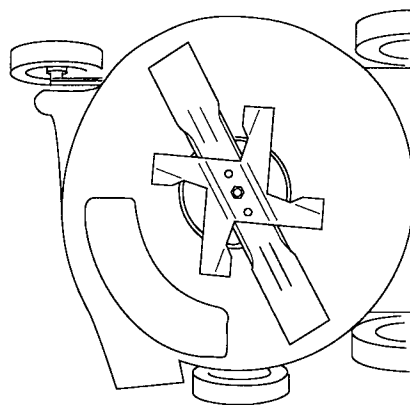

Figure 23
2. Tip mower onto right side (Fig. 23).